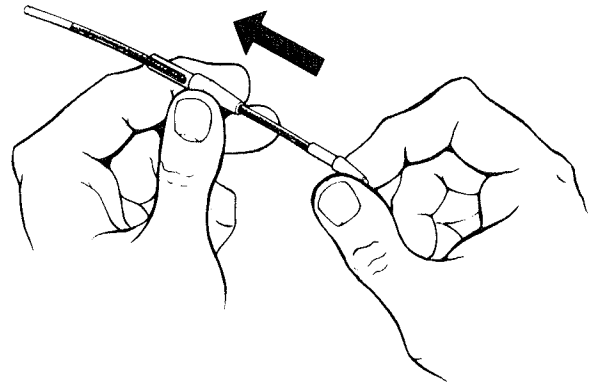

Figure 5-8. Inserting Pen in Mount
d. Insert a new ball point pen cartridge into mount (figure 5-8). Color of ink should match color of mount.